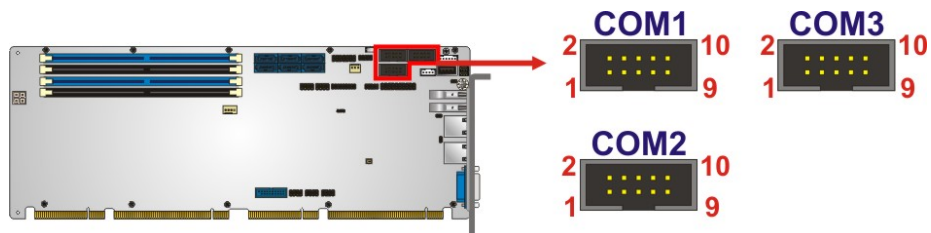

Figure 3-17: RS-232 Serial Port Locations
- CN Location:** See **Figure 3-17**